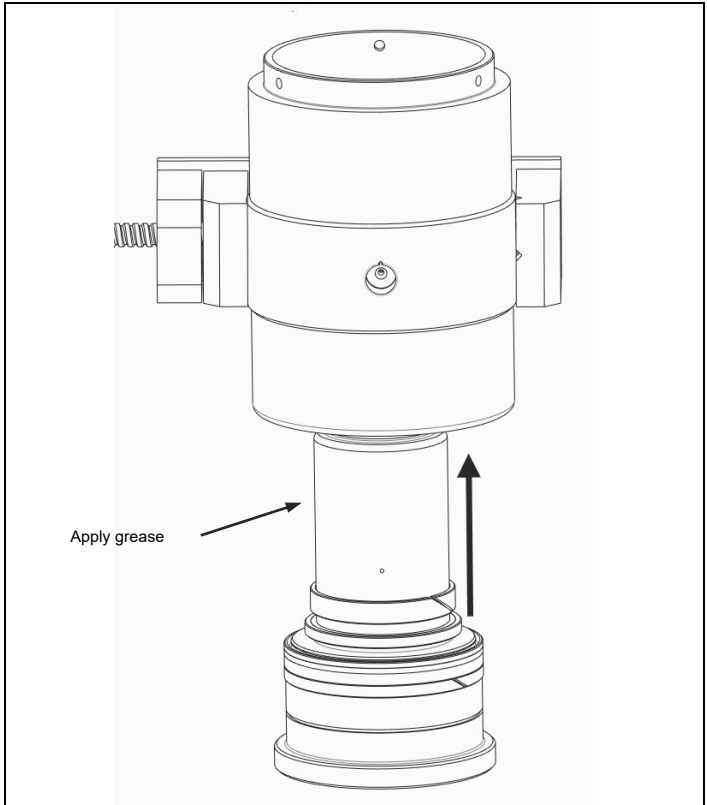

Fig. 4.7 Apply grease and install piston
- a) When sliding the piston assembly into the body, take care not to damage any of the internal surfaces. (Fig. 4.7)